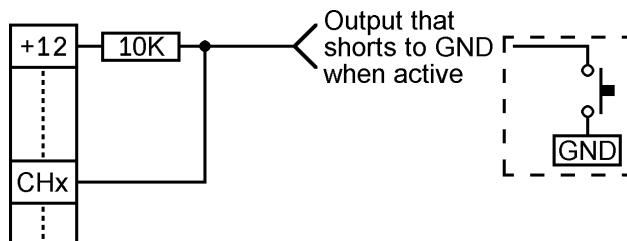

Figure 3: Connecting an output that drives low to the DT6I.
- CH1 - CH5** These are the inputs for alarm channels 1 to 5. Each input is held low via an internal 100K pull down resistor to GND. An input can be put into its alarm state by either applying voltage to it or removing voltage from it, depending upon the configuration of the input's polarity (for further information on input polarity refer to the *ALARM CHANNEL INPUT POLARITY* section on page 9). To trigger an input from a source that only drives low (eg. an Open Collector output or a normally open switch to GND) the input will have to be pulled up to the positive voltage rail via a 10K resistor as shown in Figure 3 below [default requires +5 to 15V DC to trigger].